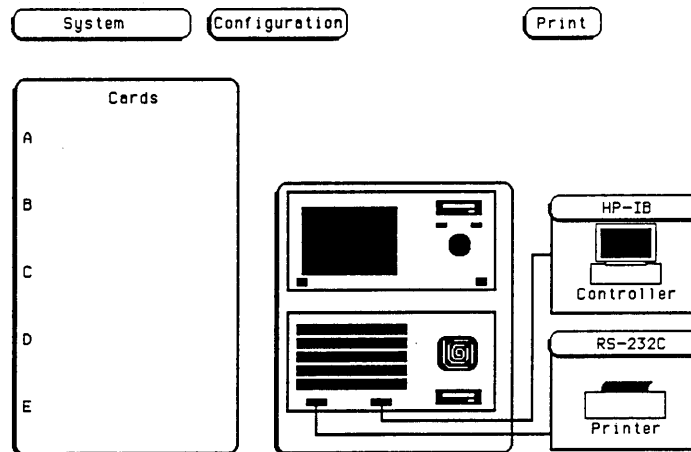

Figure 6-3. System Configuration
- a. Cycle power to obtain System Configuration (see figure 6-3).